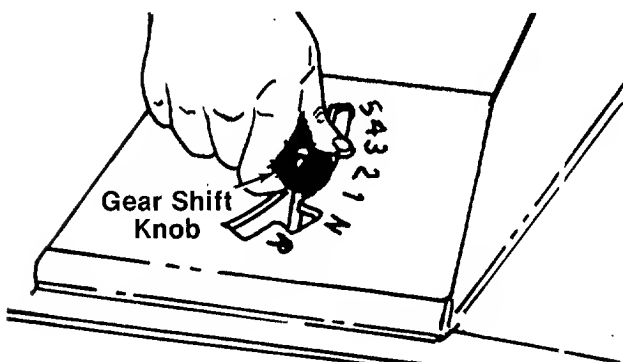

FIGURE 4.
- ← 1. Place gear shift lever in the "neutral" position. Unscrew the gear shift knob. See figure 4.